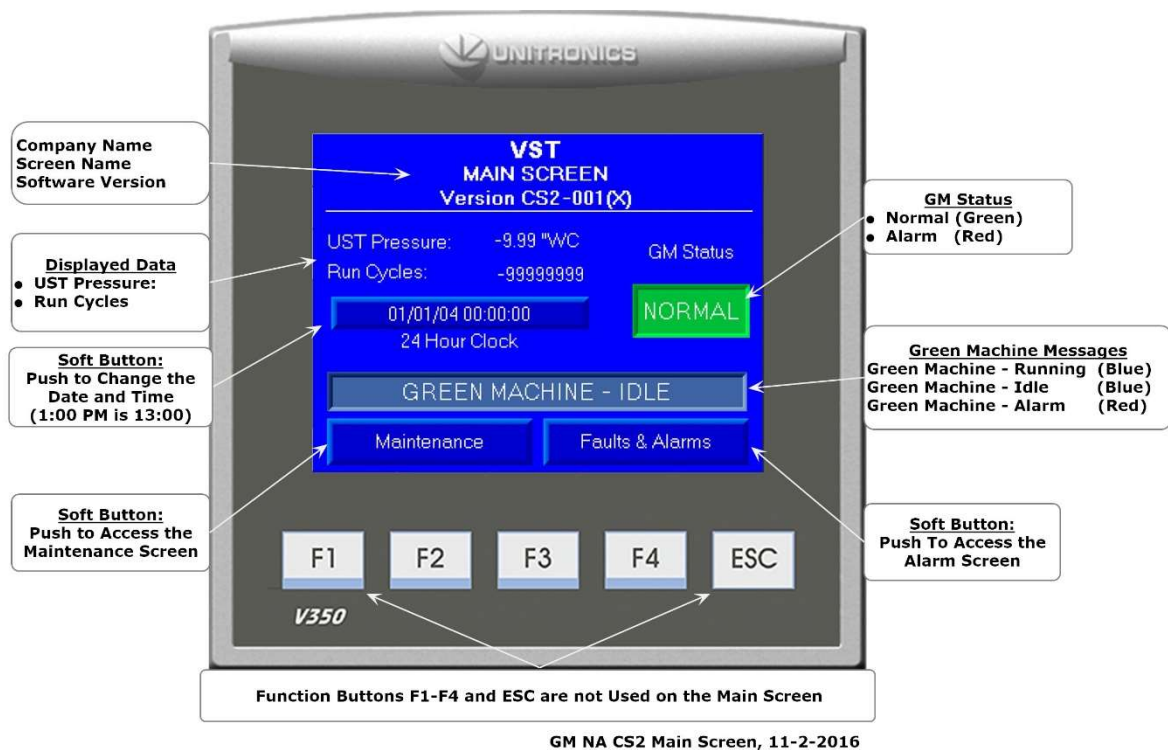

Figure 11-3: Main Screen
- The Control Panel PLC will always power up in the Main Screen. **See Figure 11-3.**